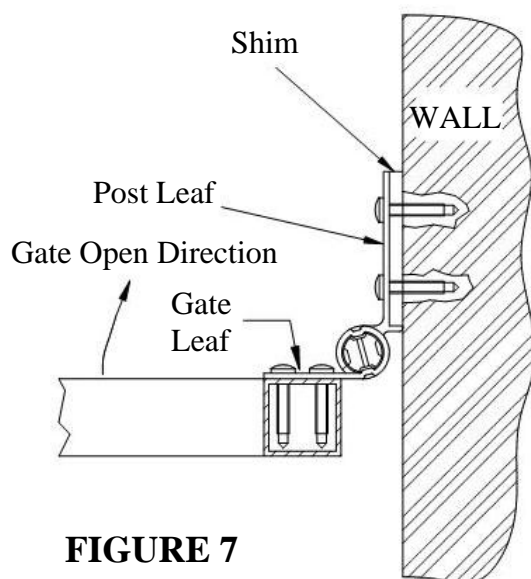

FIGURE 7
- 3.5. If the hinge is to be mounted on a flat surface you may need to shim out the hinge post leaves so that the hinge does not rub or bind against the mounting surface. See Figure 7.